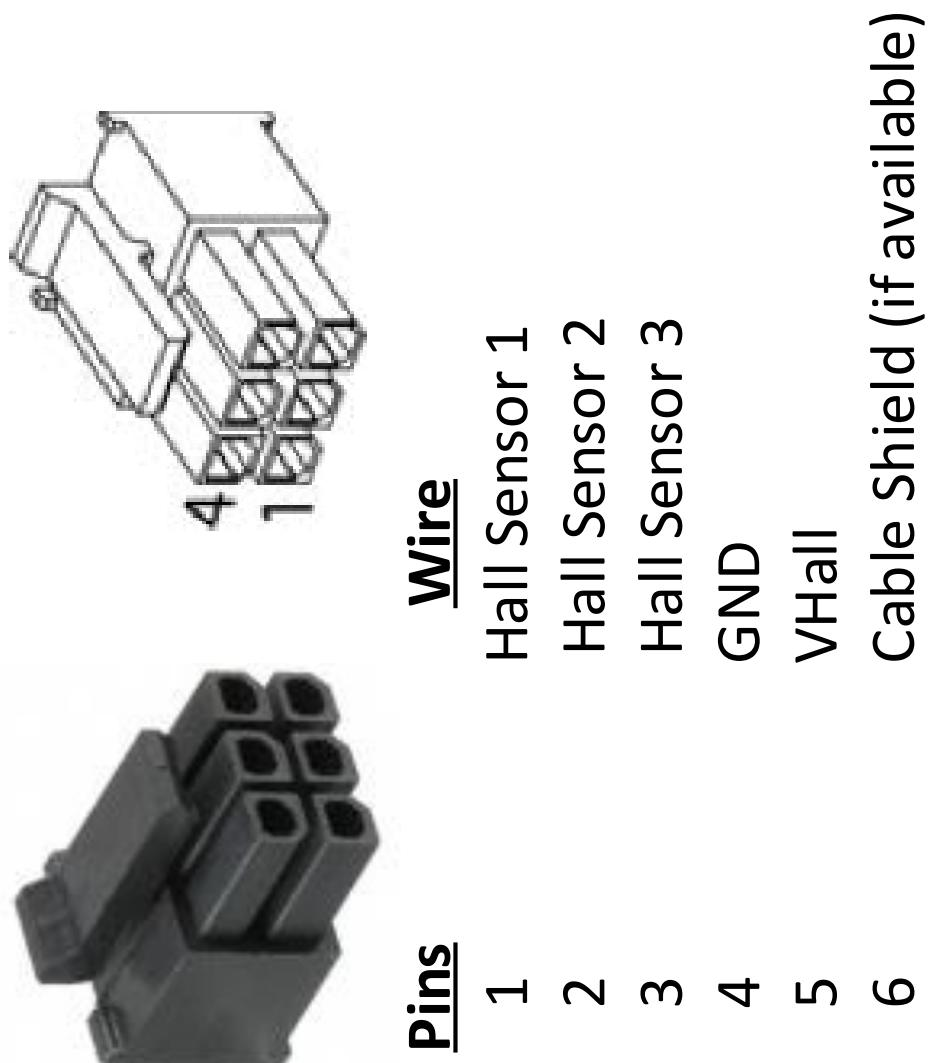

Figure 3.28: microHall: Molex Micro-Fit 3.0™6 poles (43025-0600)
- Picture and pinout: see figure 3.28